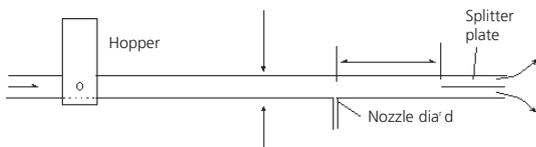

Figure 3. Pilot study rig
The concept of applying jet mixers to pipeline conditioning was originated in 1978 with a pilot study using a 2" pipe with water as the main medium and plastic beads as the denser material (ref. 2). The beads were fed into the flowing stream and a single point jet from the bottom of the pipe was used to promote turbulence. The percentage of beads in the top and bottom of the pipe were recorded by weight to give an estimate of vertical distribution (see Fig. 3).